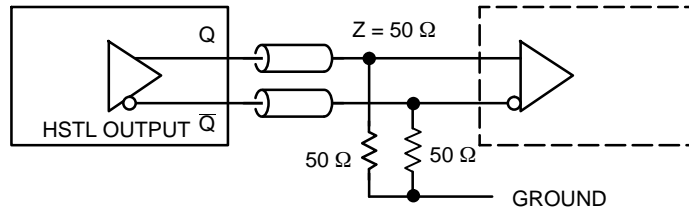

Figure 6. HSTL Output Termination and AC Test Reference
3. All outputs loaded with 50 Ω to GND (See Figure 6).
- Measured with 750 mV (LVPECL) source or 1 V (HSTL) source, 50% duty cycle clock source. All outputs loaded with 50 Ω to ground (See Figure 6).